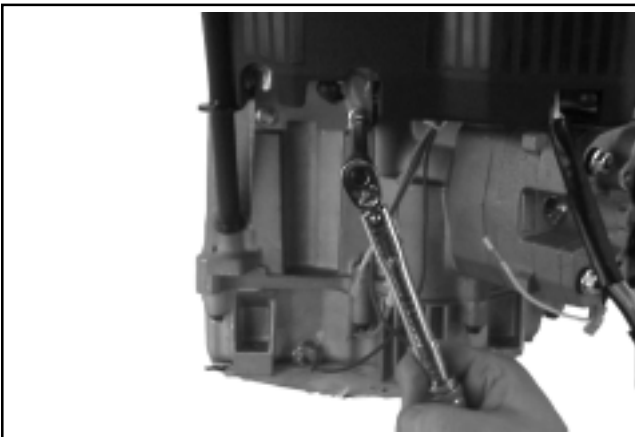

Figure 11-79. Torquing Adapter Plate Screws.
- Position the starter mounting plate onto the crankcase so that the cutout is at the bottom, and the offset is toward the dipstick tube. Install and torque the two hex. flange mounting screws to **15.3 N-m (135 in. lb.)**. See Figure 11-79.